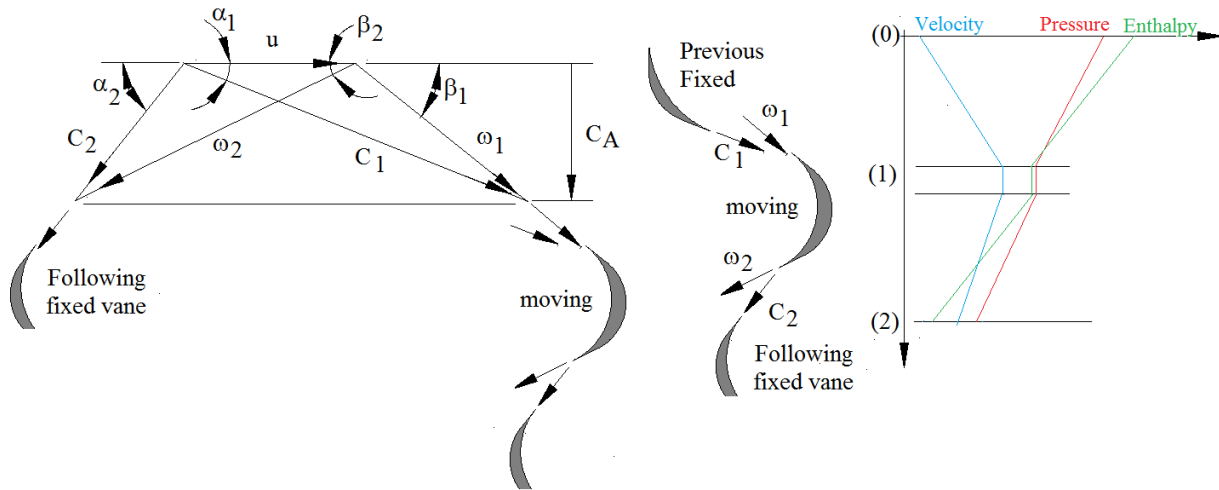

Figure 18
It is also normal to keep the axial velocity constant throughout the turbine so  $C_{A1} = C_{A2} = C_A$  and so there is no axial force. Consider one pair of blades or stage and make it the first stage. The steam enters the first fixed row at point (0) and has shockless entry to the first moving row at (1) and exits at (2) into the next fixed row. This is illustrated in figure 18. The steam accelerates from a low velocity at (0) (this is often taken as zero for the first stage) to  $C_1$ . The pressure and enthalpy is reduced in consequence. The steam enters the moving row with absolute velocity  $C_1$  at an absolute angle of  $\alpha_1$ . The moving blade must have angle  $\beta_1$  at entry to make the relative velocity  $\omega_1$  correct for shockless entry. The steam expands through the moving blades driving the rotor. The absolute velocity and enthalpy drops further. If there is a following row of fixed blades the angles at (2) must be correct for shockless entry ( $\alpha_2$  and  $\beta_2$ ) but we are not considering the next stage at the moment.